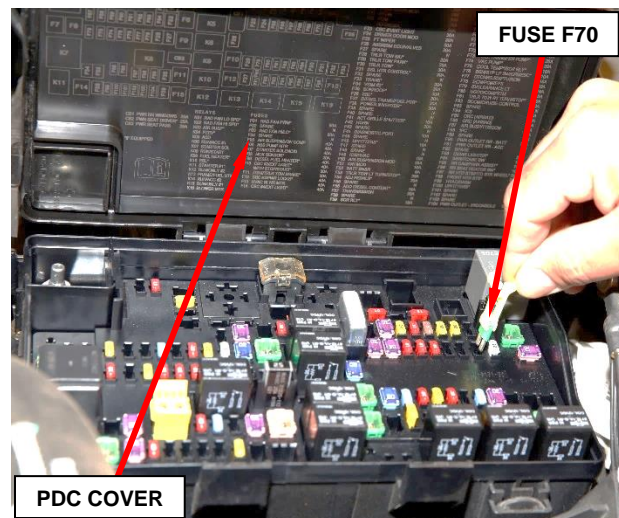

Figure 2 – Fuel Pump Fuse F70
3. Remove fuse F70 from the PDC (Figure 2).